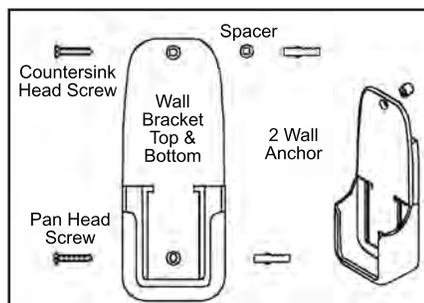

Figure 43: Wall Bracket Installation Option 2.
2. Mounted to wall with top and bottom of bracket; refer to Figure 43 (most common).